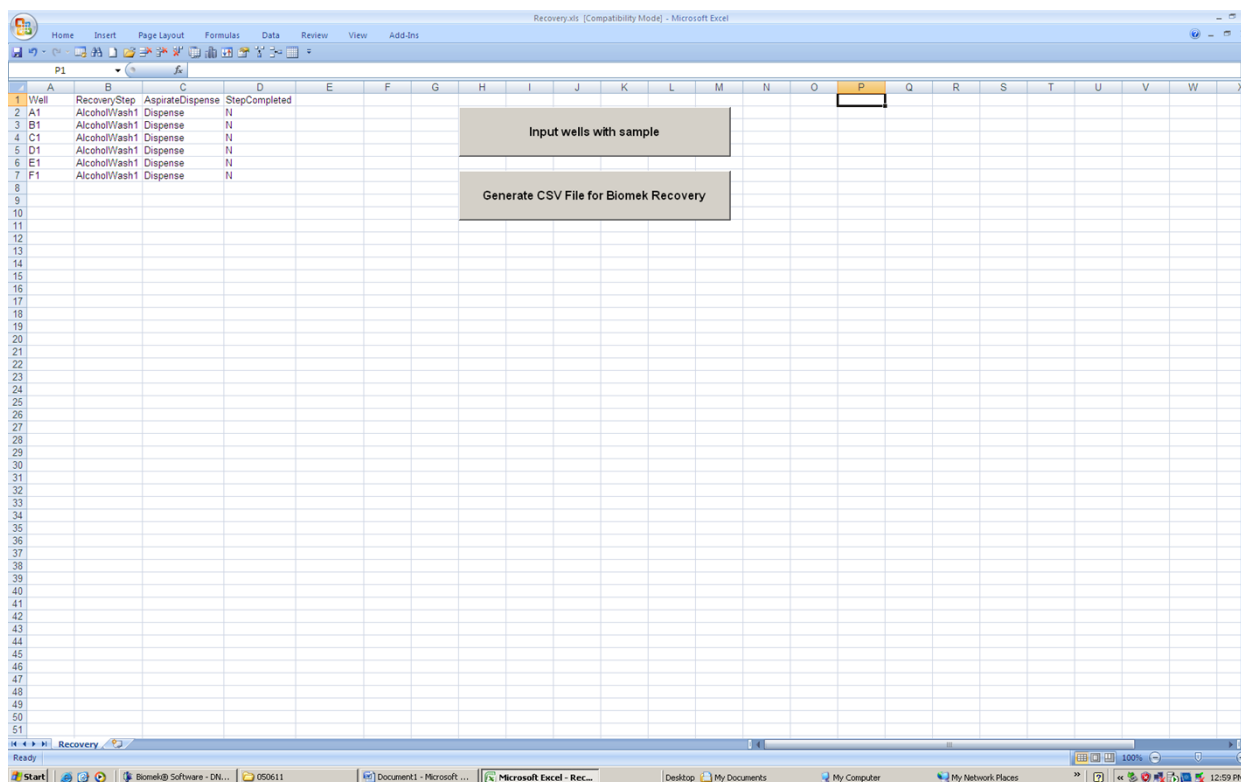

Figure 7. Recovery.xls worksheet for entering the conditions for the recovery run.
2.3.3.2 The “Recovery.xls” file (shown in Figure 7) will be opened next by the software.
- 2.3.3.2.2 Choose the “RecoveryStep”, “AspirateDispense”, and “StepCompleted” conditions (shown as column headers in Figure 7) to set the starting point for the recovery method for **EACH** well with sample (See Table 1).